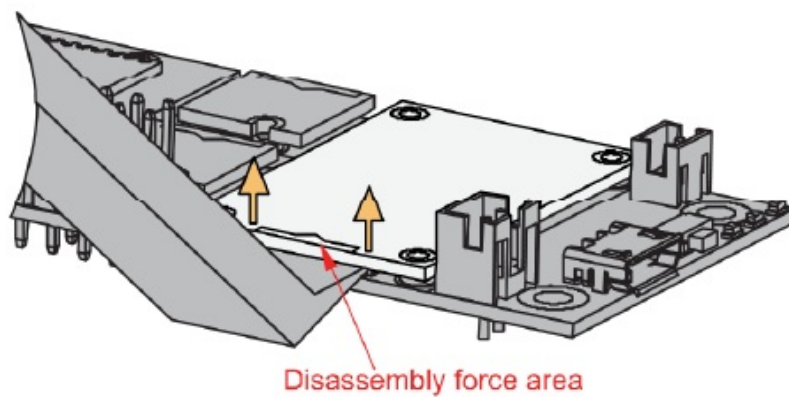

Figure 5: Applying even forces to the proper location of a WisBlock module
1. Apply force to the module at the position of the connector, as shown in **Figure 5**, to detach the module from the baseboard.